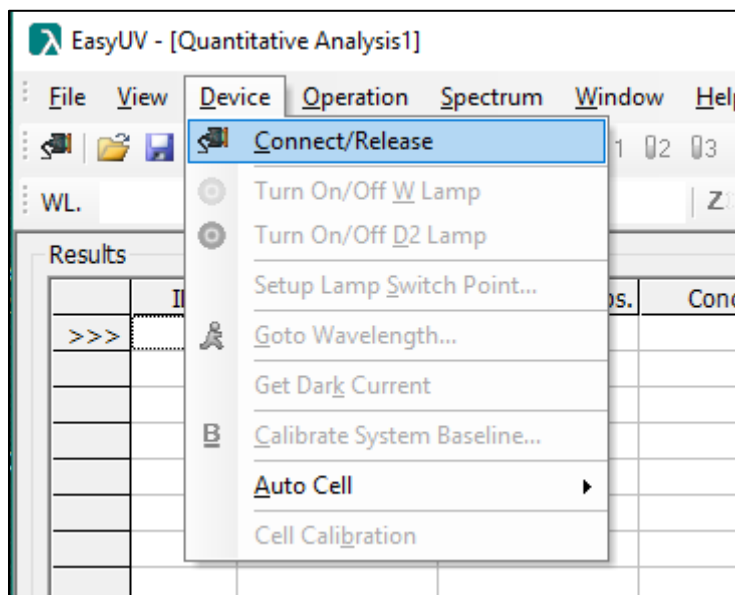

Figure 2.6-5 Connetti/rilascia da menu
- Menu **Device** → **Connect/Release** (Fig.2.6-5)